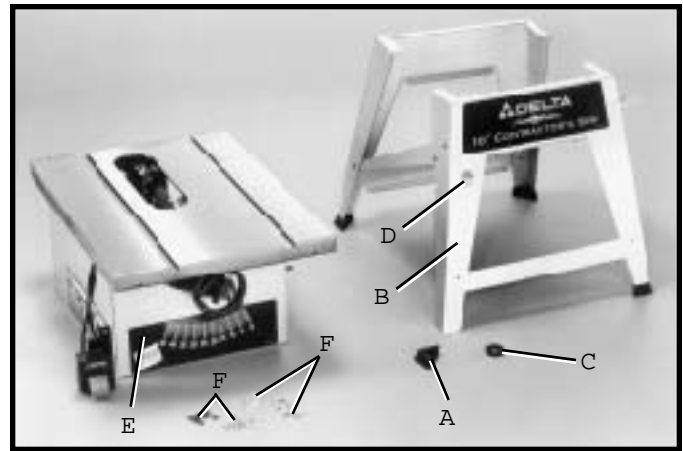
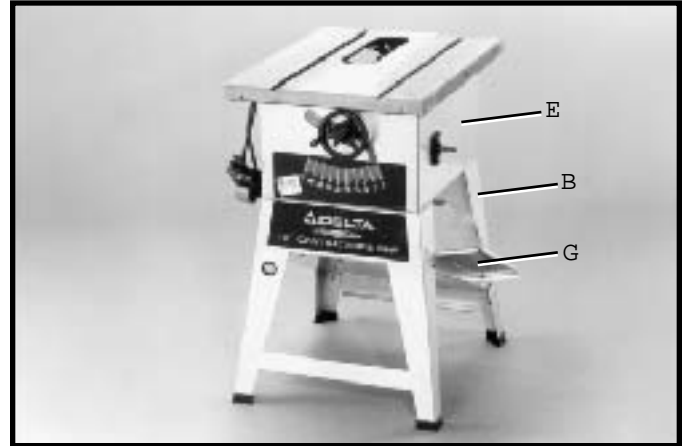

Fig. 8
Fig. 9
1 Fig. 8, illustrates the stand (B) completely assembled.
2 Assemble rubber foot (A) Fig. 8, onto the end of each stand leg (B). Insert grommet (C) into hole (D) in stand leg.
3 Carefully place saw (E) Fig. 9, onto saw stand (B). Align eight holes in the top of stand (B) with mounting holes in the bottom of saw (E) and fasten with eight screws, flat washers, lockwashers, and hex nuts (F) Fig. 8.
4 Fig. 9, illustrates the saw (E) assembled to the saw stand (B). Carefully push down on the top of the saw until the stand legs are positioned firmly on the floor surface and securely tighten all saw and stand mounting hardware. Notice that panel (G) is not only a support for a stand, but also serves as a dust chute.